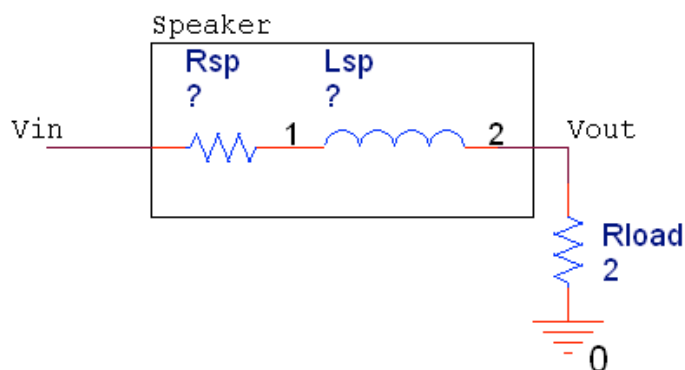

Figure 9: Voltage Divider for Determining R_{SP} and L_{SP}
1. A speaker can be modeled as a resistance in series with an inductor. In order to determine the resistance (R_{SP}) and the inductance (L_{SP}), two separate experiments will be conducted. First, it should be noted that an inductor behaves as a short circuit at very low frequencies (i.e., DC). We can then set up a DC voltage divider to find the speaker's resistance, R_{SP} . (NOTE: The 2Ω resistor in Figure 9 is actually five 10Ω , $10W$ resistors in parallel. Ask the TA where to find these resistors.)
Now use the function generator as the input for Figure 9. Use one oscilloscope probe on the input, and another on the output. Calculate the value of L_{SP} in two different ways. First, use the phase shift between input and output voltage along with the equation for V_{OUT}/V_{IN} found above. Secondly, use the gain from the input to the output voltage (as read off the oscilloscope) and the equation above.